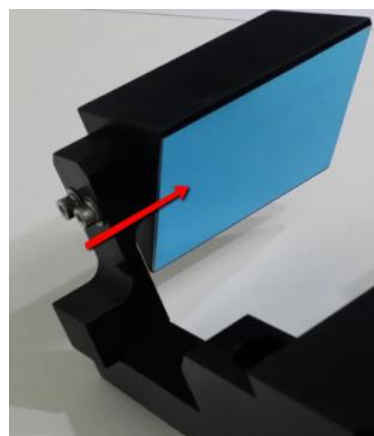

Figure 8 Blue Adhesive Protector Removal
3. Remove blue adhesive protector from Mirror block as Figure 8.
4. Assemble the Front PSP 2 Module to the spacer as below Figure 8. Tighten up 4 x (M5 X 12).